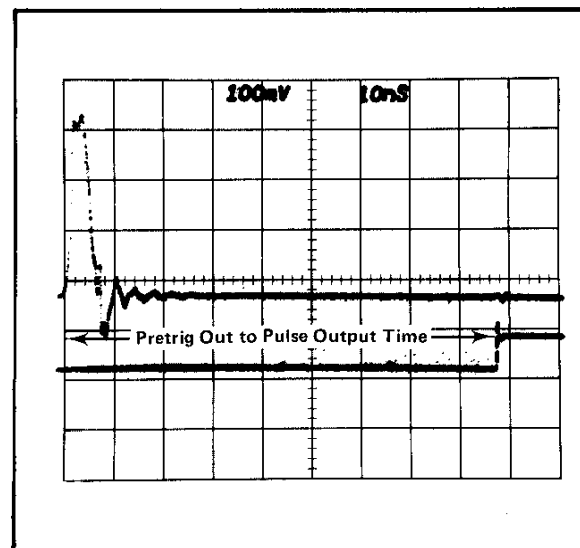

Fig. 5-3. Double exposure photo showing the PRETRIG OUT to PULSE OUTPUT time interval.
- f. Check the position of the leading edge of the displayed PULSE OUTPUT signal to be 85 ns within 5 ns from the left edge of the graticule. See Fig. 5-3.